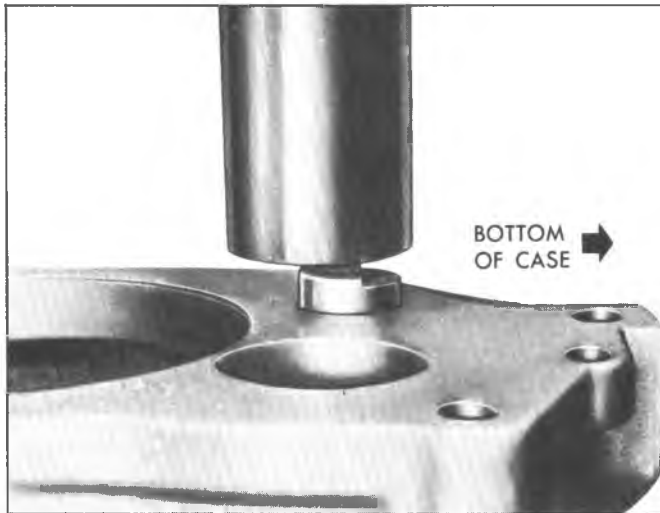

Fig. 16B-Installing Countershaft
5. Align countergear with shaft in rear and hole in front of case, and press countershaft into case (pushing assembly tool out front of case) until flat on shaft is flush with rear of case. Be sure thrust washers remain in place (fig. 16B).